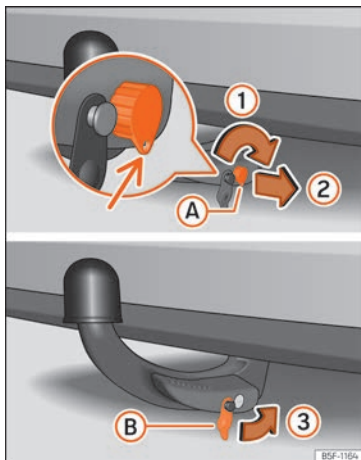

Fig. 180 Putting the tow hook in place. Step 2.
- Turn the key to the right just half a turn, until the hole in the key faces downwards »» Fig. 180 ①.
- Remove the key ②.
- Place the cover ② on the lock ③ »» Fig. 180 »» ⚠.